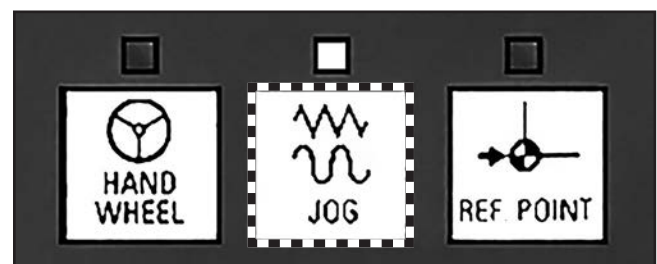

Figure 97. Jog key on MCP.
2. On MCP, press JOG key (see **Figure 97**).